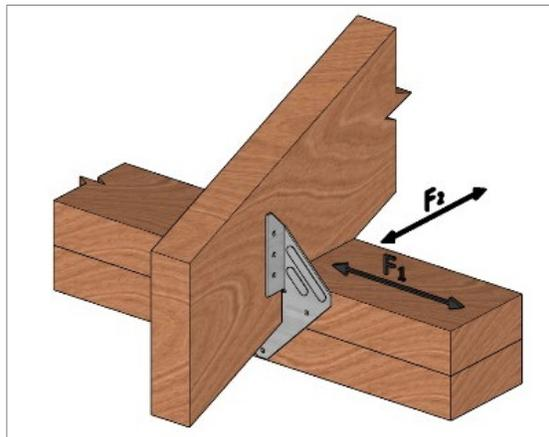

Figure 1
- a. Metal connectors connecting roof structure to exterior wall system at all wall-to-roof framing connections (trusses and rafters) sized to meet the load requirements of Table F2 as shown in Figure 1.
3. F2 load direction is perpendicular to the wall (Refer to Figure 1).
4. F1 load direction is parallel to the wall (Refer to Figure 1).